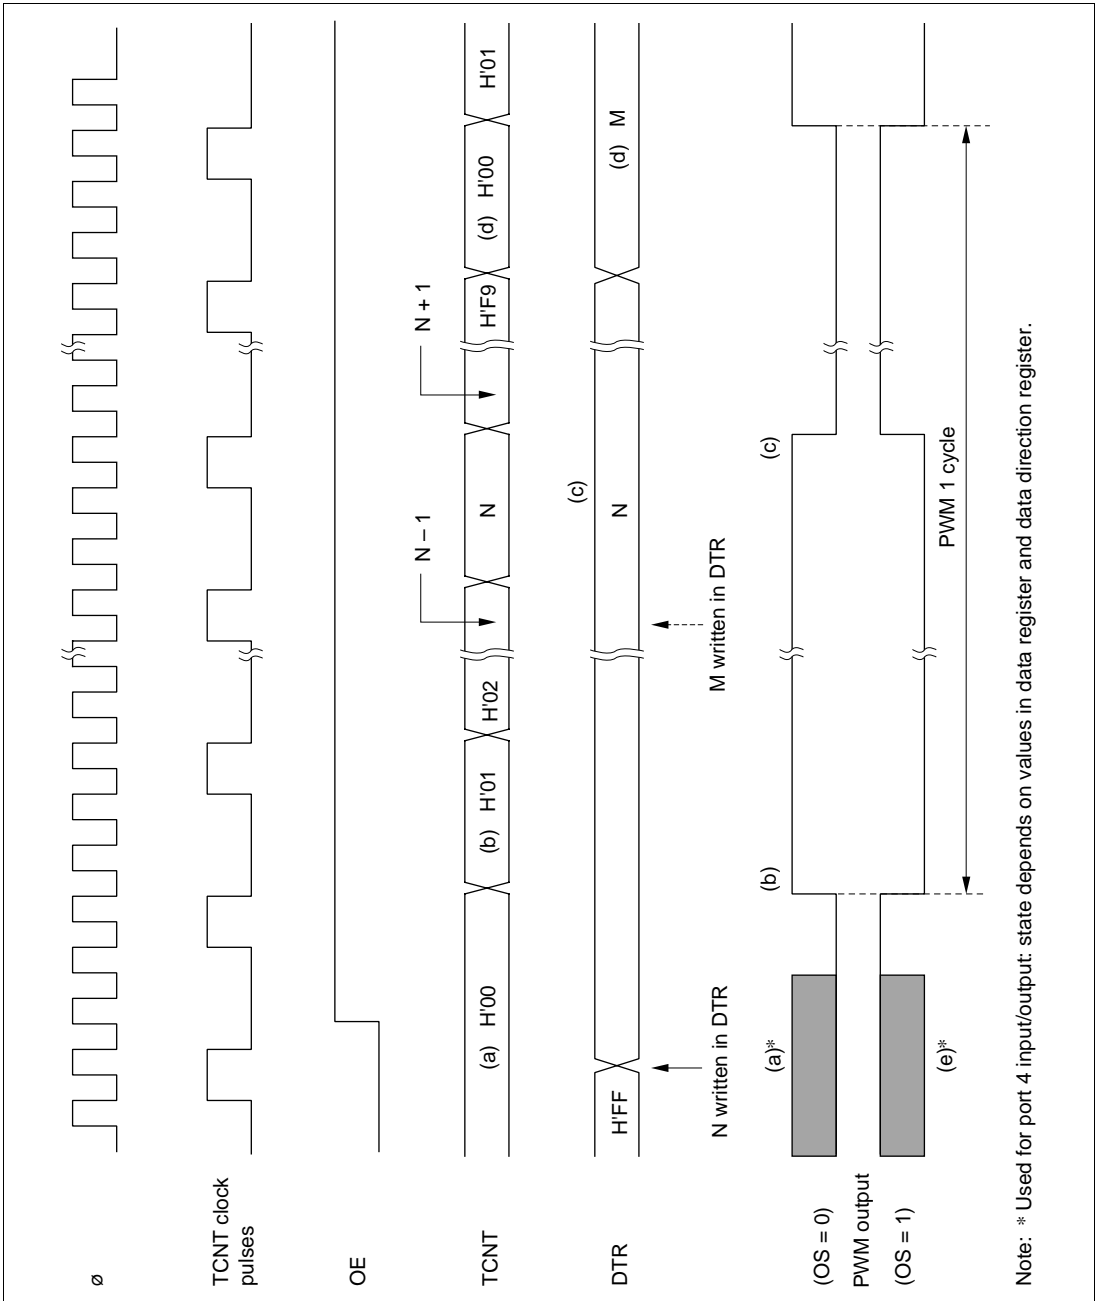

Figure 10.3 PWM Timing
Figure 10.3 is a timing chart of the PWM operation.
1. When (OE = 0)—(a) in Figure 10.3
The timer count is held at H'00 and PWM output is inhibited. [Pin 4₆ (for PW0) or pin 4₇ (for PW1) is used for port 4 input/output, and its state depends on the corresponding port 4 data register and data direction register.] Any value (such as N in figure 10.3) written in the DTR becomes valid immediately.
- a. The timer counter begins incrementing. The PWM output goes high when TCNT changes from H'00 to H'01, unless DTR = H'00. [(b) in figure 10.3]
- b. When the count passes the DTR value, the PWM output goes low. [(c) in figure 10.3]
- c. If the DTR value is changed (by writing the data “M” in figure 10.3), the new value becomes valid after the timer count changes from H'F9 to H'00. [(d) in figure 10.3]
Negative Logic (OS = 1)—(e) in Figure 10.3: The operation is the same except that high and low are reversed in the PWM output. [(e) in figure 10.3]